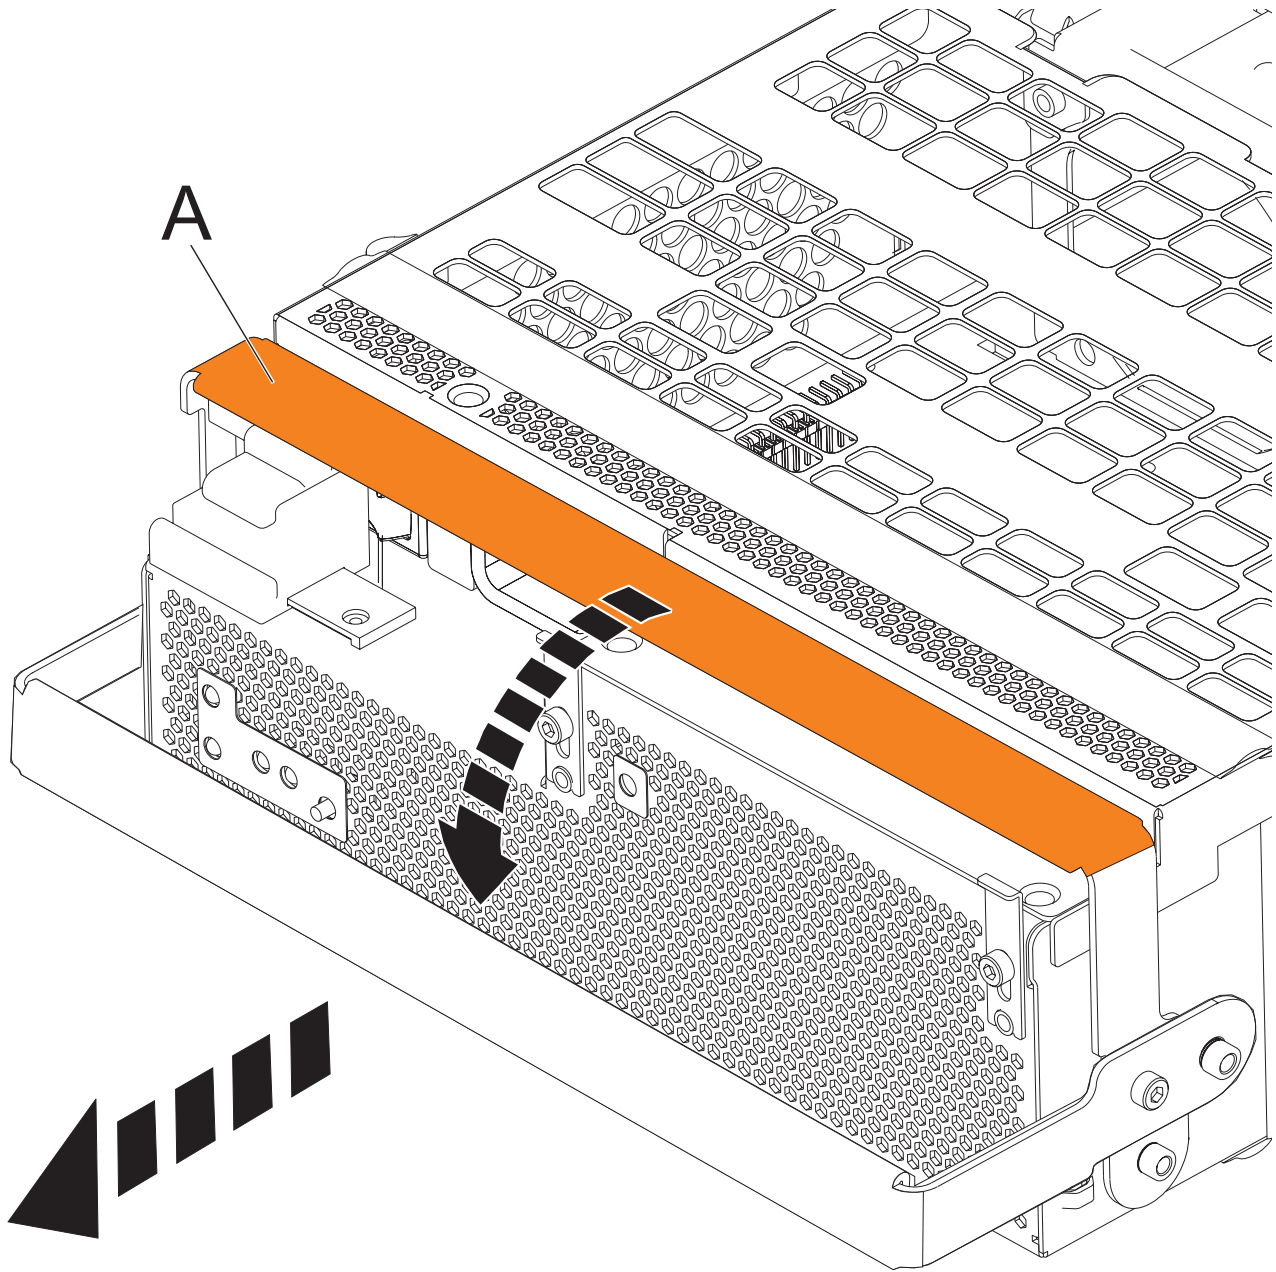

Figure 85. Remove the offline converter assemblies
- a. Pull the OCA handle (A) all the way down in the direction shown to unseat the OCA. See Figure 85 on page 114.